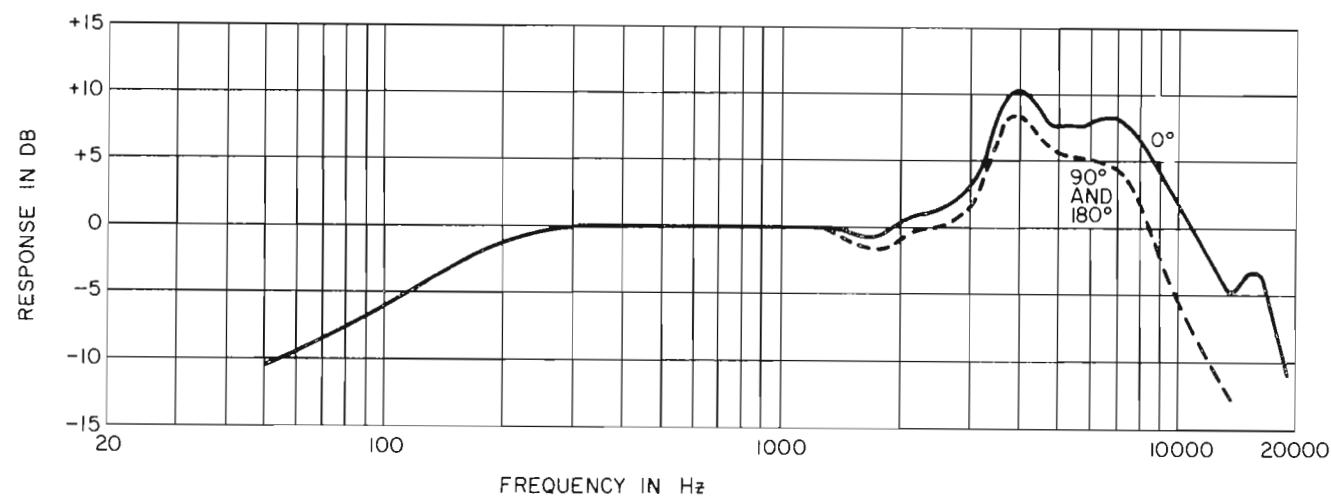

FIG. 6. BK-12A frequency response curve.
In the first position (A), the microphone is directly on the axis of the user's mouth and all frequencies are faithfully reproduced. In the second microphone position (B), the microphone is at an angle off the axis of the mouth and the high frequency response is beginning to fall off. In the third microphone position (C), against the man's chest, sound is reaching the microphone at an even greater angle off axis, and there is greater drop-off of the higher frequencies. However, two additional changes also have taken place which affect the microphone's reproduction. One, a so called shadow effect, apparently the result of the presence of the man's chin in the sound path has caused the very high frequencies to start rising. Secondly, acoustical radiation from the man's chest has begun to reinforce the lower frequencies and a rising response can be seen at this end of the spectrum. An ideal microphone for this type application, then, is one where the response characteristics are the inverse of the response of the microphone at the C position. The desired response is indicated by the dotted line. Notice the similarity of this curve to the frequency response curve of the BK-12A microphone seen in Fig. 6.